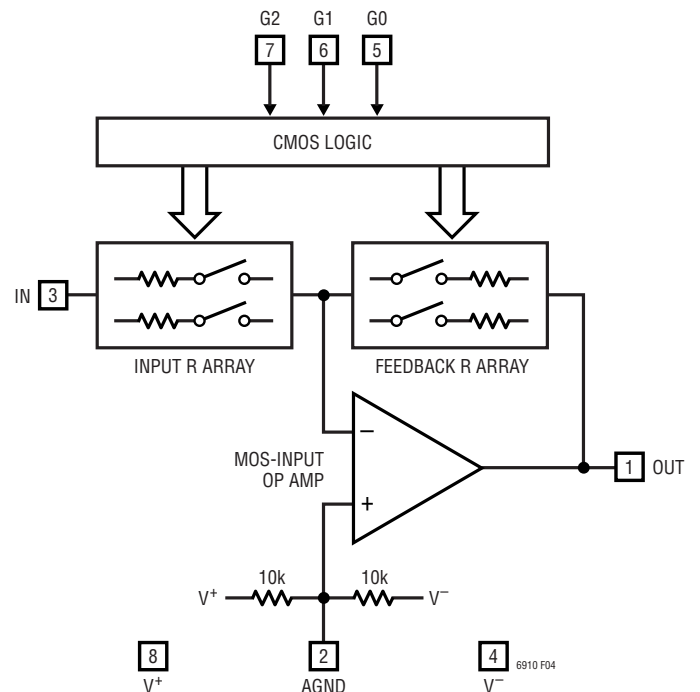
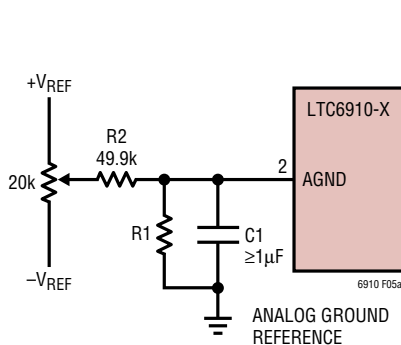

Figure 4. Block Diagram
Figure 5a. Offset Nulling (Dual Supplies)
**AGND (Pin 2):** Analog Ground. The AGND pin is at the midpoint of an internal resistive voltage divider, developing a potential halfway between the  $V^+$  and  $V^-$  pins, with an equivalent series resistance to the pin of nominally 5k $\Omega$  (Figure 4). AGND is also the noninverting input of the internal op amp, which makes it the ground reference voltage for the IN and OUT pins. Because of this, very “clean” grounding is important, including an analog ground plane surrounding the package.
**IN (Pin 3):** Analog Input. The input signal to the amplifier in the LTC6910-X is the voltage difference between the IN and AGND pins. The IN pin connects internally to a digitally controlled resistance whose other end is a current summing point at the same potential as the AGND pin (Figure 4). At unity gain (digital input 001), the value of this input resistance is approximately 10k $\Omega$  and the IN voltage range is rail-to-rail (V+ to V-). At gain settings above unity (digital input 010 or higher), the input resistance falls. Also, the linear input voltage range falls in inverse proportion to gain. (The higher gains are designed to boost lower level signals with good noise performance.) Tables 1, 2, and 3 summarize this behavior. In the “zero” gain state (digital input 000), analog switches disconnect the IN pin internally and this pin presents a very high input resis-
The LTC6910 family are small outline, wideband inverting DC amplifiers whose voltage gain is digitally programmable. Each delivers a choice of eight voltage gains, controlled by the 3-bit digital inputs to the G pins, which accept CMOS logic levels. The gain code is always monotonic; an increase in the 3-bit binary number (G2 G1 G0) causes an increase in the gain. Table 1, Table 2 and Table 3 list the nominal voltage gains for LTC6910-1, LTC6910-2 and LTC6910-3 respectively. Gain control within each amplifier occurs by switching resistors from a matched array in or out of a closed-loop op amp circuit using MOS analog switches (Figure 4). Bandwidth depends on gain setting. Curves in the Typical Performance Characteristics section show measured frequency responses.
Settling time in the CMOS gain-control logic is typically several nanoseconds and faster than the analog signal path. When amplifier gain changes, the limiting timing is analog, not digital, because the effects of digital input changes are observed only through the analog output (Figure 4). The LTC6910-X's logic is static (not latched) and therefore lacks bus timing requirements. However, as with any programmable-gain amplifier, each gain change causes an output transient as the amplifier's output moves,
The electrical tables list DC offset (error) voltage at the inputs of the internal op-amp in Figure 4,  $V_{OS(OA)}$ , which is the source of DC offsets in the LTC6910-X. The tables also show the resulting, gain dependent offset voltage referred to the IN pin,  $V_{OS(IN)}$ . These two measures are related through the feedback/input resistor ratio, which equals the nominal gain-magnitude setting, G:
Offset voltages at any gain setting can be inferred from this relationship. For example, an internal offset  $V_{OS(OA)}$  of 1mV will appear referred to the IN pin as 2mV at a gain setting G of 1, or 1.5mV at a gain setting of 2. At high gains,  $V_{OS(IN)}$  approaches  $V_{OS(OA)}$ . (Offset voltage can be of either polarity; it is a statistical parameter centered on zero.) The MOS input circuitry of the internal op amp in Figure 4 draws negligible input currents (unlike some op amps), so only  $V_{OS(OA)}$  and G affect the overall amplifier's offset.
Because internal op amp offset voltage  $V_{OS(OA)}$  is gain independent as noted above, offset trimming can be readily added at the AGND pin, which drives the noninverting input of the internal op amp. Such a trim shifts the AGND voltage slightly from the system's analog ground reference, where AGND would otherwise connect directly. This is convenient when a low resistance analog ground potential or analog ground reference exists, for the return of a voltage divider as in Figure 5a. When adjusted for zero DC output voltage when the LTC6910-X has zero DC input voltage, this DC nulling will hold at other gain settings also.
Figure 5a shows the basic arrangement for dual-supply applications. A voltage divider (R1 and R2) scales external reference voltages  $+V_{REF}$  and  $-V_{REF}$  to a range equaling or slightly exceeding the approximately  $\pm 10\text{mV}$  op amp offset-voltage range. Resistor R1 is chosen to drop the  $\pm 10\text{mV}$  maximum trim voltage when the potentiometer is set to either end. Thus if  $V_{REF}$  is 5V, R1 should be about  $100\Omega$ . Note also that the two internal  $10\text{k}$  resistors in Figure 4 tend to bias AGND toward the mid-point of  $V^+$  and  $V^-$ . The external voltage divider will swamp this effect if R1 is much less than  $5\text{k}\Omega$ . When considering the effect of the internal  $10\text{k}$  resistors, note that they form a Thévenin equivalent of  $5\text{k}$  in series with an open-circuit voltage at the halfway potential  $(V^+ + V^-)/2$ . (Although tightly matched,
With this trim technique in place, the remaining DC offset sources are drifts with temperature (typically  $6\mu\text{V}/^\circ\text{C}$  referred to  $V_{OS(OA)}$ ), shifts in the LTC6910-X's supply voltage divided by the PSRR factors, supply voltage shifts coupling through the two  $10\text{k}$  internal resistors of Figure 4, and of course any shifts in the reference voltages that supply  $+V_{REF}$  and  $-V_{REF}$  in Figure 5a.
At a gain setting of 10V/V in an LTC6910-1 (digital input 100) and a 250ksps sampling rate in the LTC1864, a 10kHz input signal at 60% of full scale shows a THD of -87dB at the digital output of the ADC. 100kHz input signals under the same conditions produce THD values around -75dB. Noise effects (both random and quantization) in the ADC are divided by the gain of the amplifier when referred to  $V_{IN}$  in Figure 4. Because of this, the circuit can acquire a signal that is 40dB down from full scale of 5VP-P with an SNR of over 70dB. Such performance from an ADC alone (70 + 40 = 110dB of useful dynamic range at 250ksps), if available, would be far more expensive.